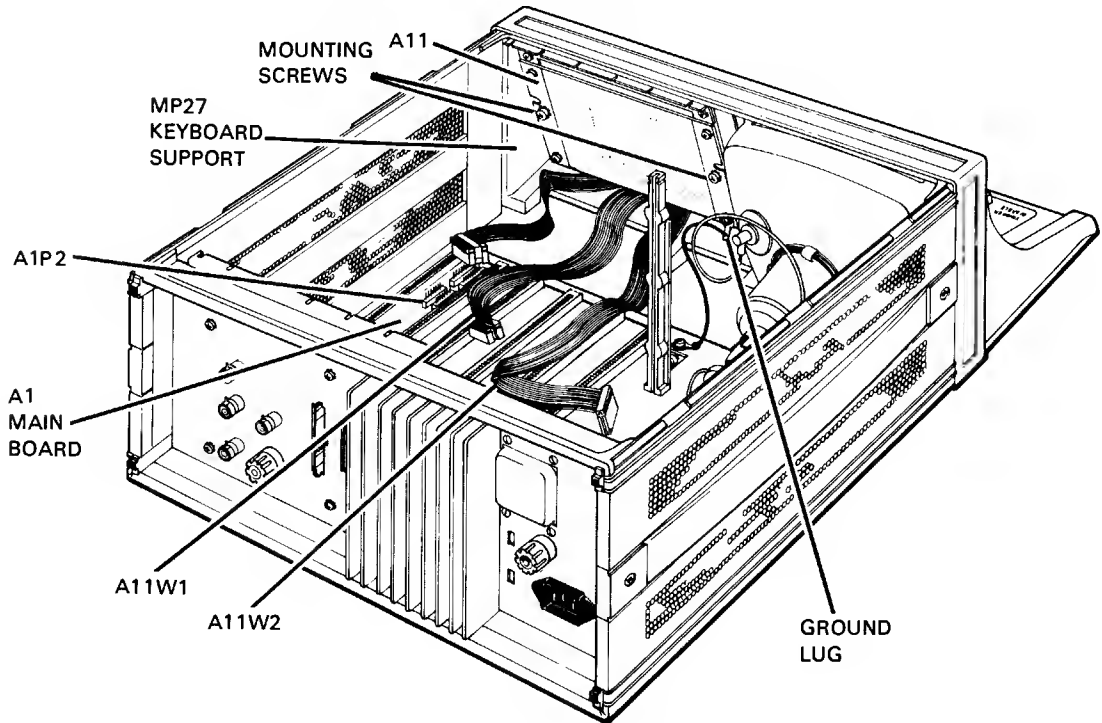

Figure 2-2. Personality Panel A11 Installation
- e. Disconnect ribbon cable A11W1 from connector A1P2 on Main Board A1 (see figure 2-2).
i. Secure ground lug to A11 as shown in figure 2-2.
j. Connect A11W1 into Main Board Connector A1P2 as shown in figure 2-2. Dot on main board indicates pin 1 of connector.